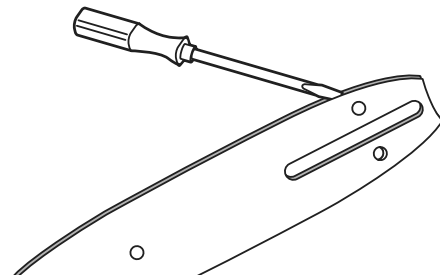

Figure 17
2. After every ten regular uses, take a screwdriver or putty knife (not included) and clear residue from the rails on the guide bar. This will keep the oil passages open to provide proper lubrication to the bar and chain. See Figure 17, right.